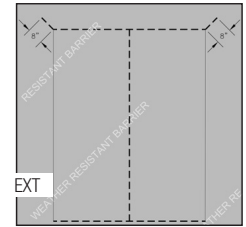

FIG. 2
- Make an "I-Cut" in the weather-resistant barrier (WRB). Begin with a horizontal cut along the bottom and the top of the rough opening. Then make a vertical cut in the center from top to bottom. (Fig. 2)
- From the exterior, make two diagonal cuts at the top of the "I-cut" as shown to form a flap. (Fig. 2)